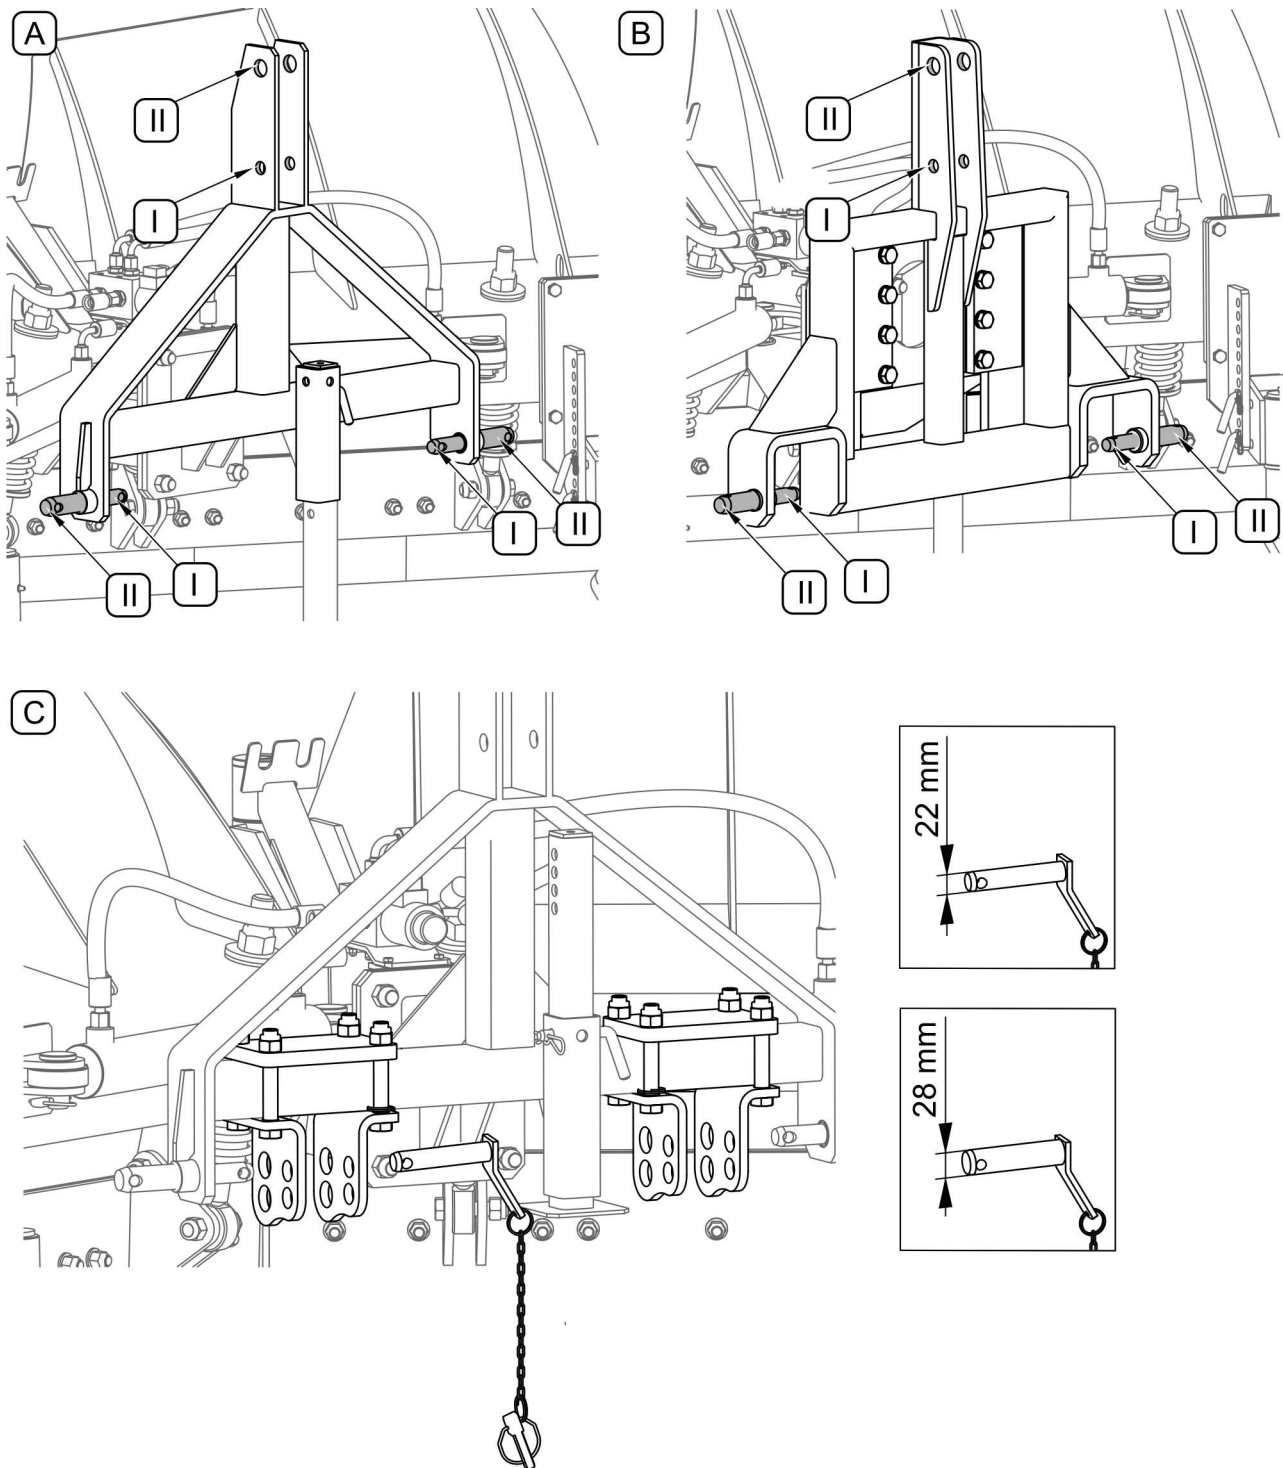

FIGURE 4.2 Three-point linkage categories according to ISO 730-1
If the tractor three-point linkage does not allow the required spacing of lower links for category I-II according to ISO 730-1 (FIGURE 4.2) linkage system (A) can be equipped with